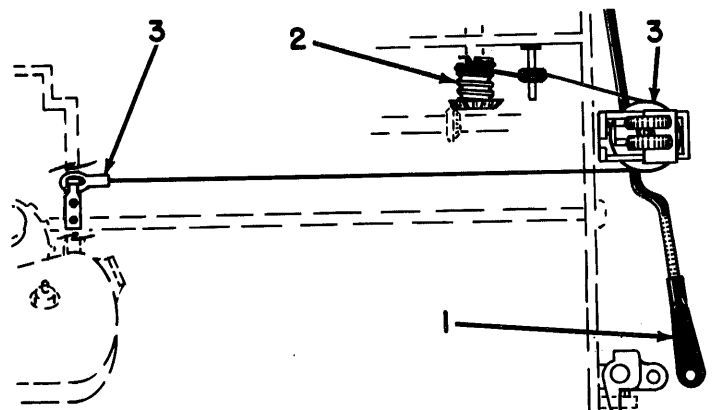

Figure 63. Escapement Cord Replacement
3. Disconnect clutch unlatching link (#1, Figure 63).
5. Connect the escapement cord to the drum with about 1 turn of the cord on the drum (#2, Figure 63).
6. Connect the end of the cord to the carrier and then place it on the pulleys (#3, Figure 63).